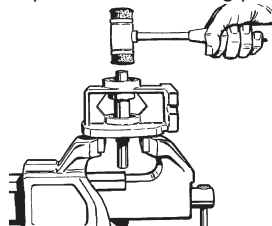

Figure 5-4
4. Place the pedestal, pump side down, on the jaws. Refer to Figure 5-4.